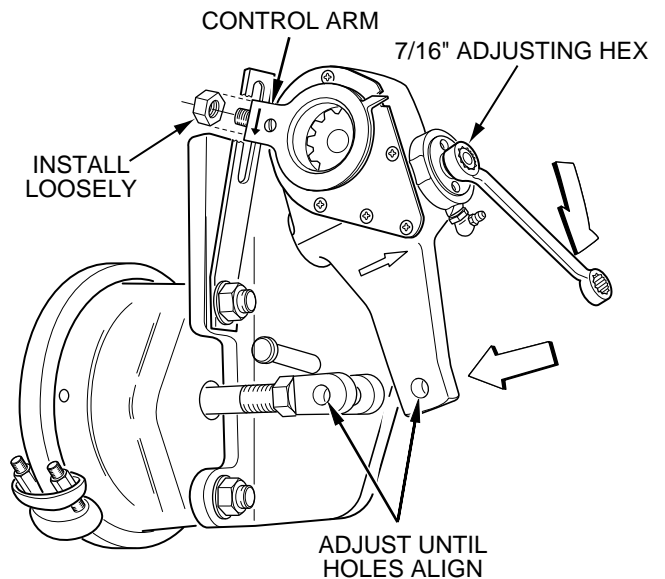

Figure 15 Install Adjuster
4. Rotate the 7/16" adjusting hex nut **clockwise** until the brake adjuster arm hole lines up with the clevis hole. (See Figure 15.)